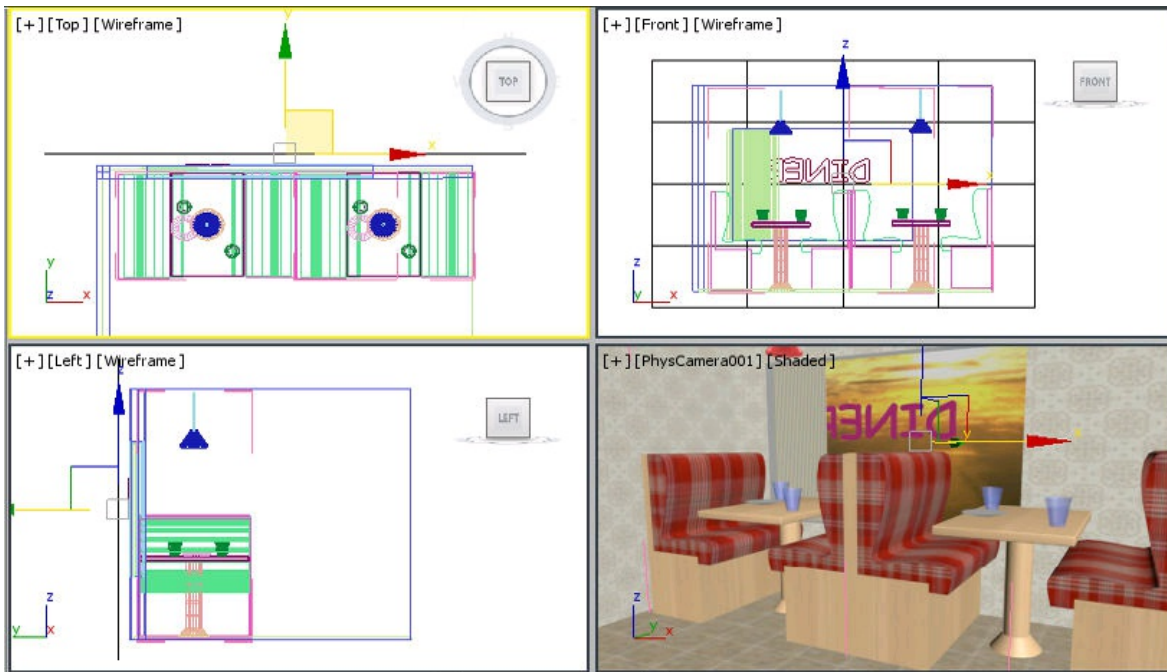

Figure P1-31 The Plane created and aligned on back of Wall02
2. In the Front viewport, create a plane and align it on the back of *Wall01* in the Left viewport, refer to Figure P1-31.